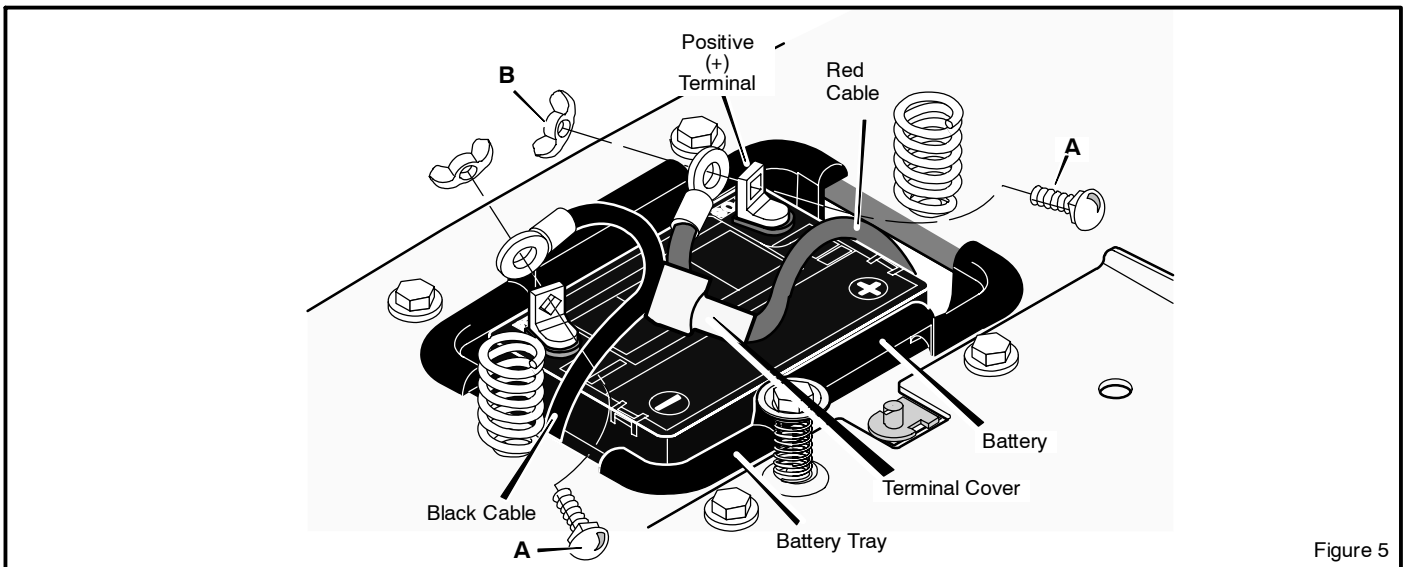

Figure 5
1. Check the top and the side of the **battery** for the location of the **battery date** (Figure 5).
2. Fasten the **red cable** and **terminal cover** (if equipped) to the **positive (+)** terminal with the fasteners as shown (Figure 5).